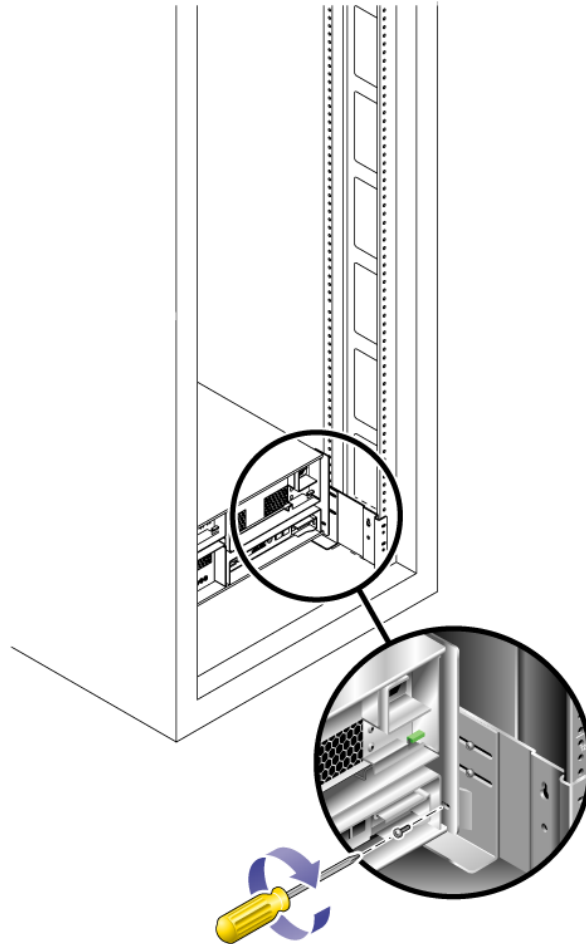

FIGURE 2-33 Securing the Tray to the Back of the Cabinet Rail
4. Install and tighten the 6-32 screw on each side of the back of the tray to secure the tray to the cabinet (FIGURE 2-33).